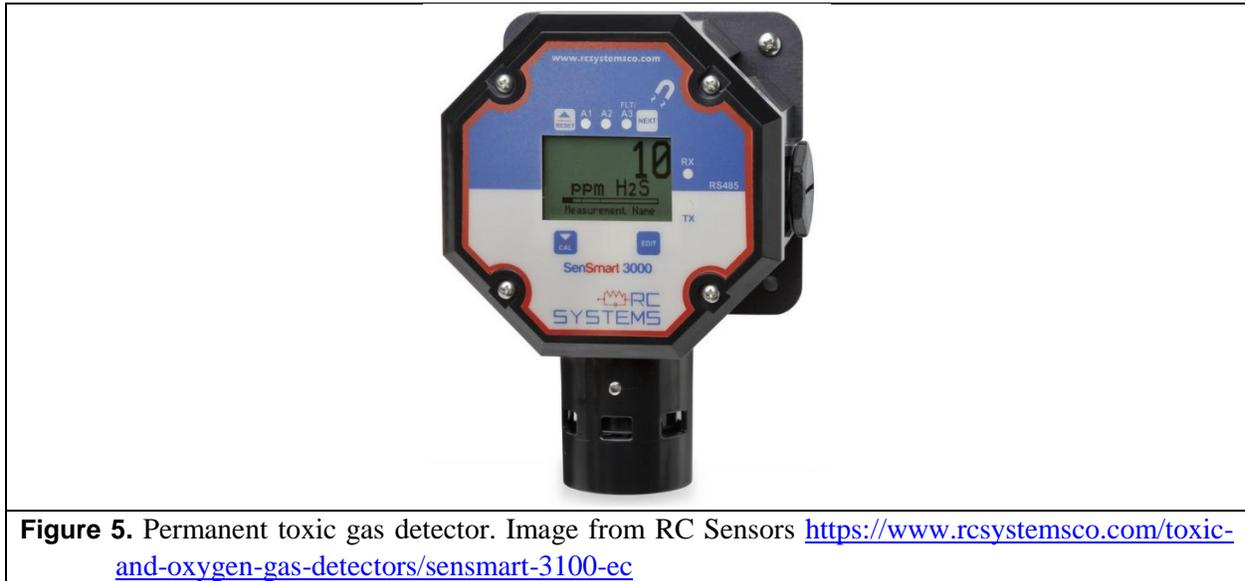

Figure 5. Permanent toxic gas detector. Image from RC Sensors <https://www.rcsystemsco.com/toxic-and-oxygen-gas-detectors/sensmart-3100-ec>
- When working with toxic gases the installation of permanent gas detectors (Figure 5) or carrying personal detectors for leak detection is needed. Gas detectors and monitors must be calibrated and maintained as per the manufacturer's operating instructions. Records of this maintenance must be maintained;